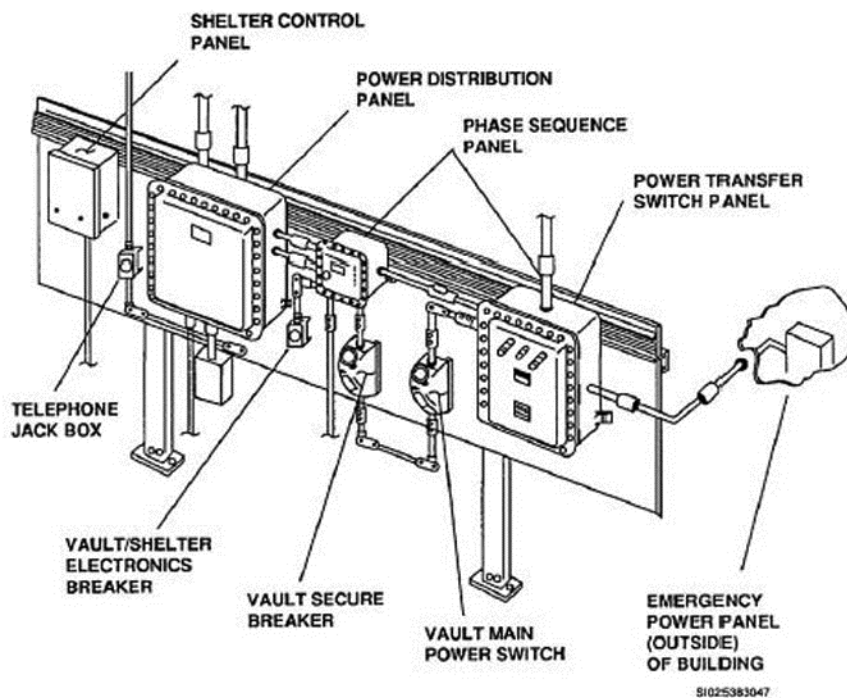

Figure 2-12. Vault electrical support panel.
- Vault electrical support panel (fig. 2-12).